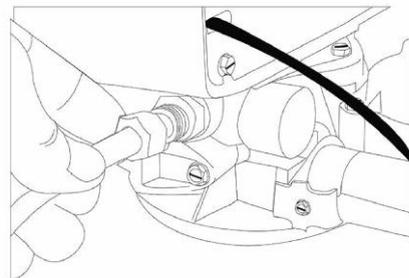

Figure 12
- Next, connect to the Fleck Meter Valve as shown in Figure 12 below.